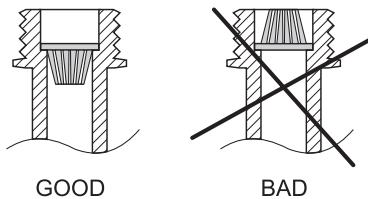

Fig. 10
5. Install filter into heater intake with basket bottom down (Fig. 10)